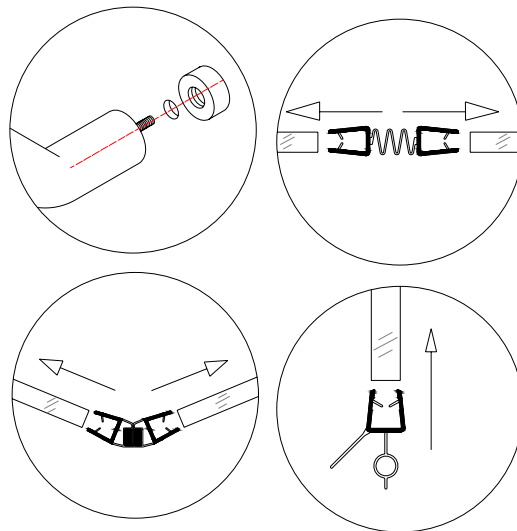

Fig 6
6. Push on the **connected anti-water strip (14)** to seal between **glass door (05)** and narrow stationary glass. Install **magnetic strips (13)** and **bottom anti-water strip (15)** on the door (fig 6).
7. Install the **handle (08)** to the glass door. Locate the vertical handle and horizontal handle. The horizontal handle will be on the outside and the vertical handle will be on the inside of the door. Start the installation from the outside which will involve the horizontal handle first. Don't forget to use the **rubber gaskets** between the glass and washers (fig 6).